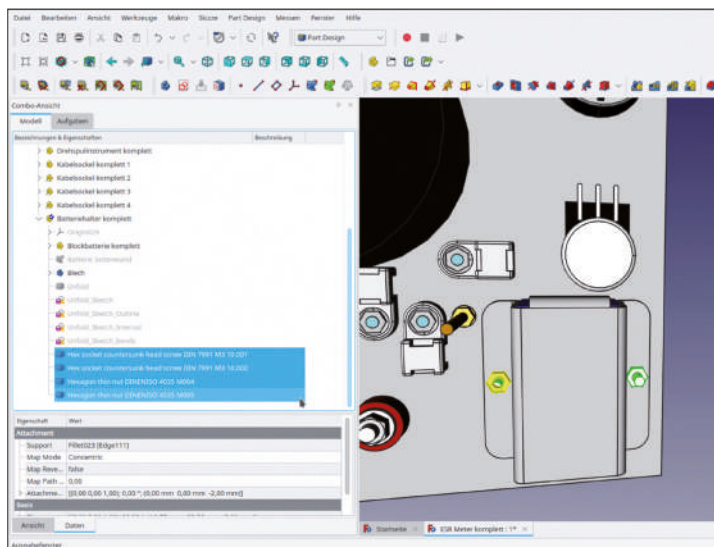

Figure 7-58
25. In the tree view, mark the fasteners for the 9V battery holder, and display them with the SPACE key (Figure 7-58).